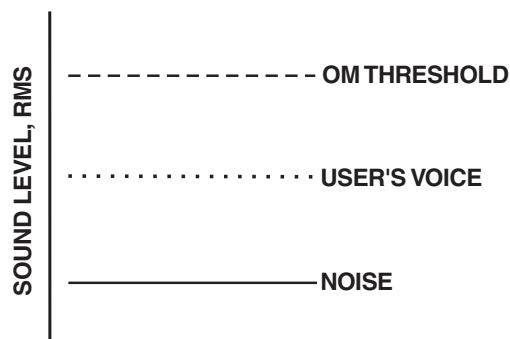
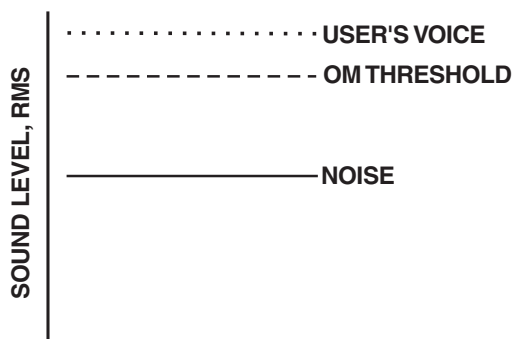

Figure 30
Figure 31
The microphone gain controls on the base station and belt-pack are set to mid-levels by the factory. In most cases this setting will work fine and only on loud speech will the overmodulation (OM) indicator light. However, in environments where the background noise is loud or the user has a strong/quiet voice, the gain control will need to be adjusted. In Figure 30 the gain is set correctly. The user's root-mean-square (RMS) sound level is well below the OM threshold and only on peaks does his or her voice flash the OM indicator light.
Figure 31 displays the same gain setting as in Figure 30 but brought into a high noise environment. The user's voice now lights the OM indicator all the time he or she speaks due to the higher noise plus the user speaking louder. The result on the system is distortion on louder speech. The microphone gain must be reduced. The same applies to a user with a powerful voice. If someone sets the system mic gain to their voice and user has a much stronger voice, then the gain will need to be reduced, even if the background noise is the same.